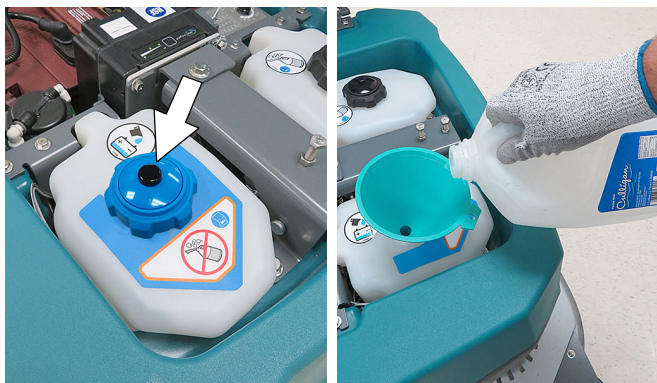

FIG. 104
12. Automatic battery watering option - Refill tank with distilled water (Figure 104). Replace cap.